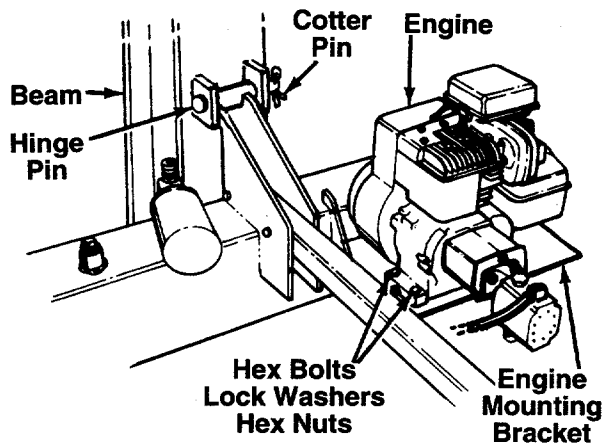

FIGURE 6.
2. Remove the cotter pin and the hinge pin, located on top of the reservoir tank assembly. Move the reservoir tank assembly in position against the beam. See figure 6. Line up holes by lifting hitch end of assembly.
Place the engine and pump assembly in position on the engine mounting bracket as shown in figure 6. Secure with hardware found in the plastic bag. Insert hex bolts from the top. Secure with lock washers and hex nuts, tightening securely.